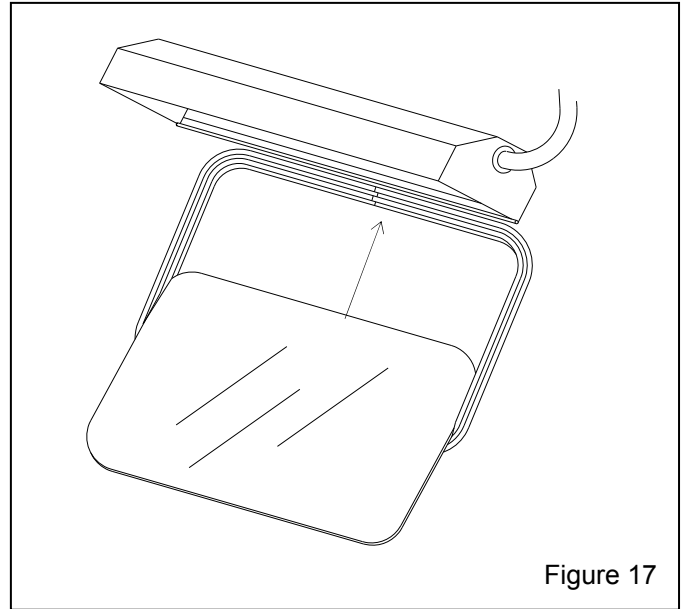

Figure 17
6.4.6 Spray silicone or other lubricant into the window channel (wide channel) on the molding, and slide the window into the channel, as shown in Figure 17. Place an arm into a glove to support the top edge of the bottom side of the window with one hand, while guiding the top edge into the molding with the other.